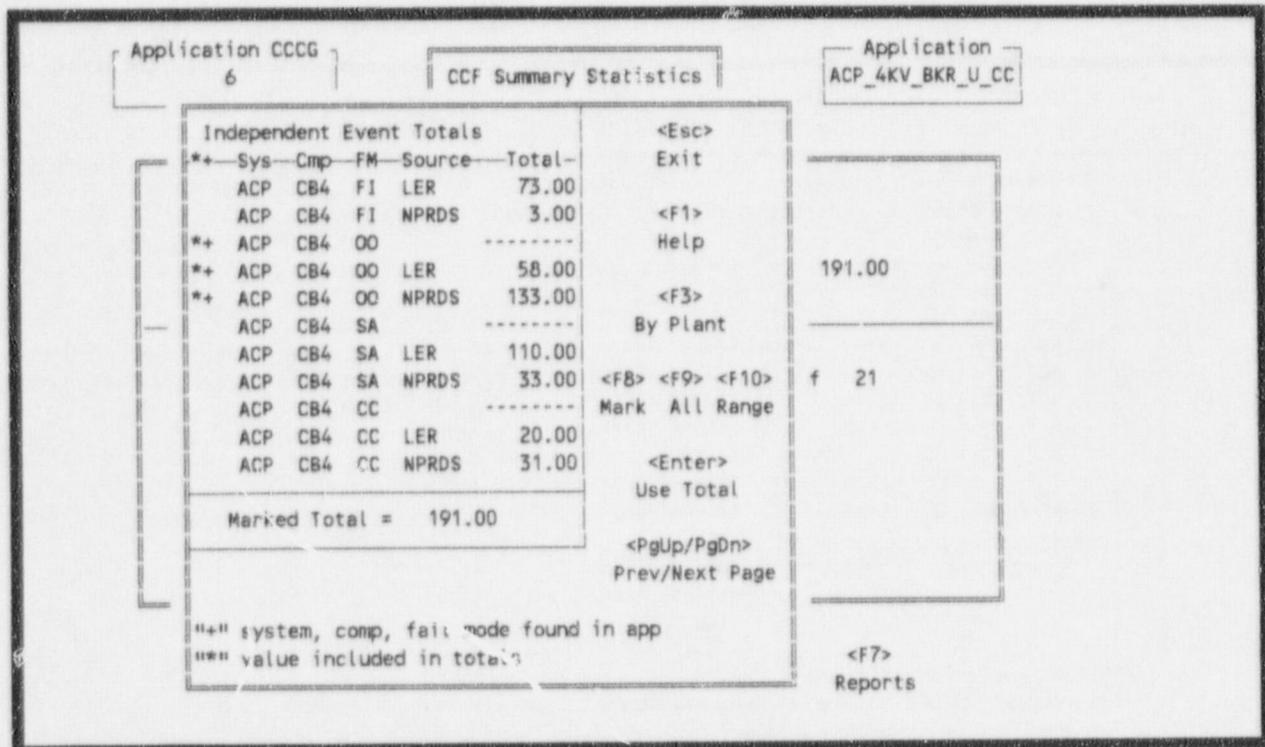

Figure 20. Generic—Breakdown of independent event total.
- <F2> Independent Event Totals—Breaks down the number of independent events. This function is available when you place your cursor in the Number or Independent Events field. Press <F2> to access the Independent Event Totals screen (Figure 20).